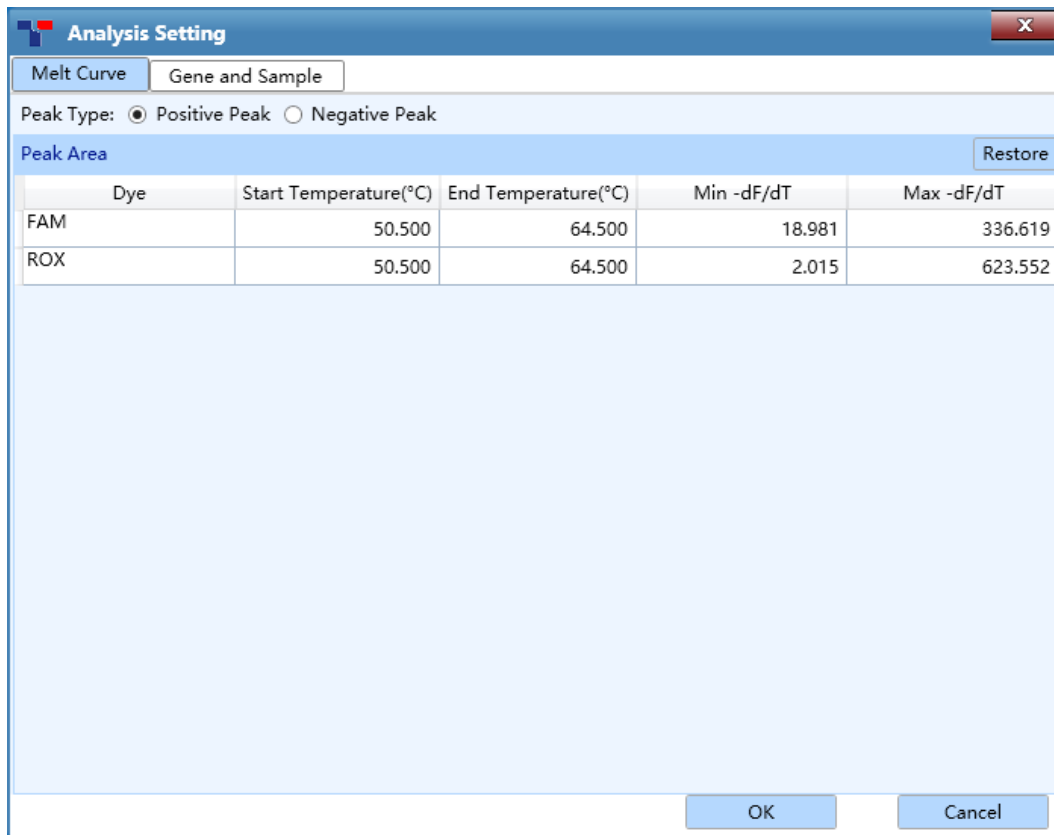

Figure D-13.3 Melting Curve Analysis Setting interface - Melt Curve tab
- I. **Melt Curve** tab: display the parameter range of each peak area on the melting curve, as shown in figure D-13.3.